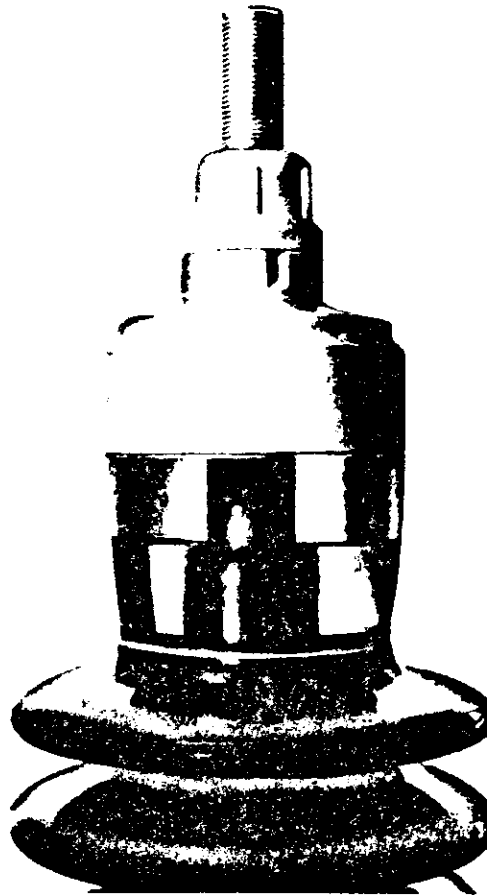

Fig. 3 Typical dome of 23 kv-69 kv Type U bushing. Liquid level indicated in sight glass by apparent change in conductor size
Except for a few special bushings, all bushings are equipped with a sight glass as shown in Fig. 3. This sight glass consists of a short section of amber-tinted, extra-heavy-walled glass shell which is hermetically bonded to the top of the porcelain. The actual oil level is visible through the glass and is readily distinguishable by the apparent magnification of the center conductor below the oil surface. On bushings rated 23 kv thru 46 kv the normal liquid level is at the mid point of the sight glass. On 69 kv bushings the normal liquid level is $\frac{1}{2}$ -inch below the mid point of the sight glass. A bushing is considered to have a satisfactory liquid level when any amount of oil is visible in the sight glass.
Examination of the illustration (Fig. 3) will show the current path from the conductor to the terminal cap (1).